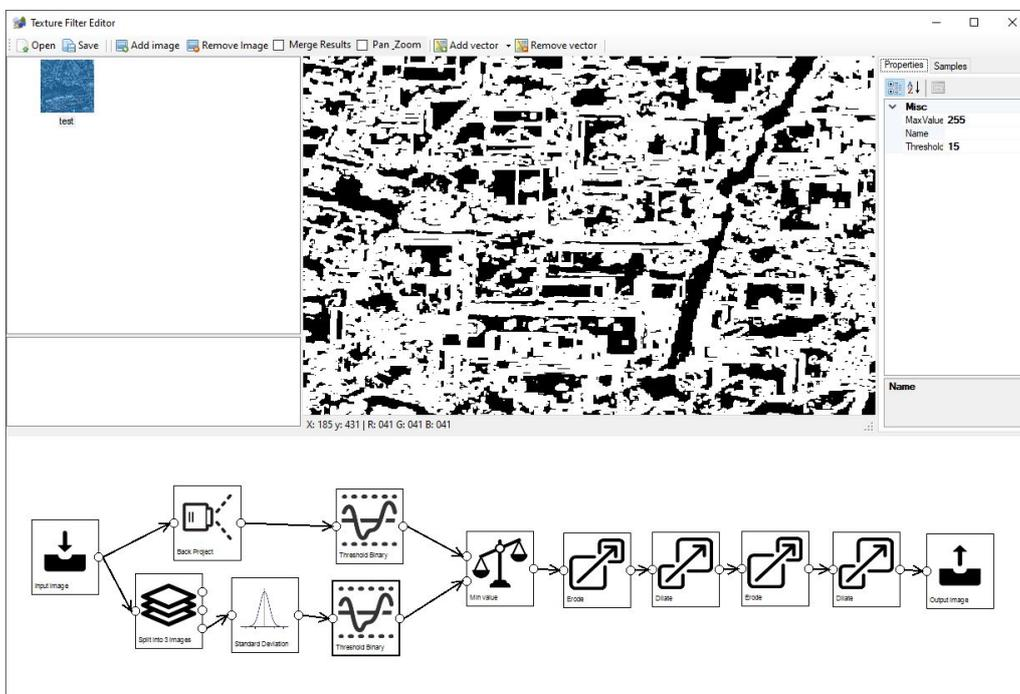

Figure 6.19: Applying a threshold to the standard deviation
6. Binary threshold with a value of 15 on the standard deviation to exclude the areas with have a low standard deviation (and thus are monotonous), see Figure 6.19.